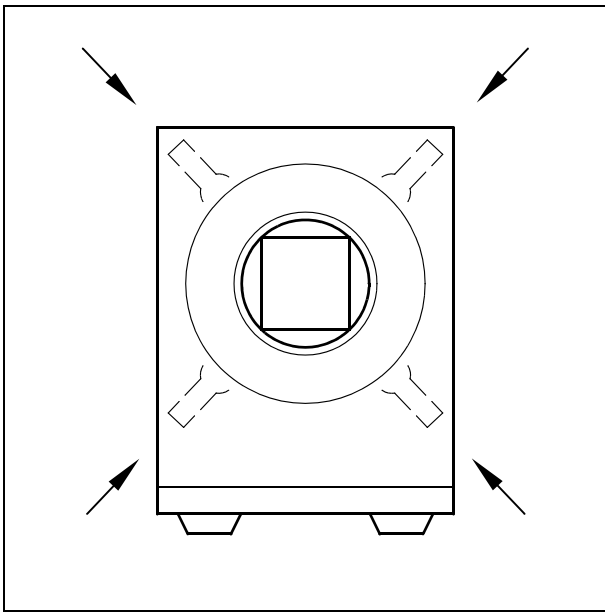
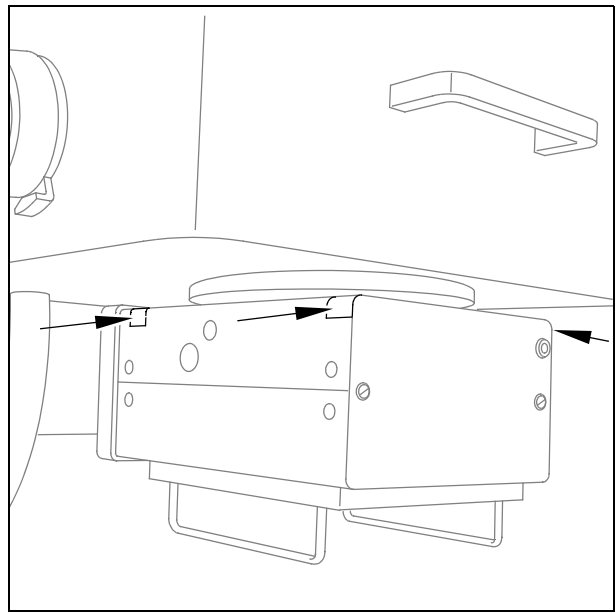

Fig. 5
Fig. 6
- If the deviation is higher, loosen the 4 Allen screws slightly (arrows/Fig. 5/Fig. 6) and move the collimator accordingly.
Then, tighten the screws at the collimator (arrows/Fig. 5/Fig.6) again.